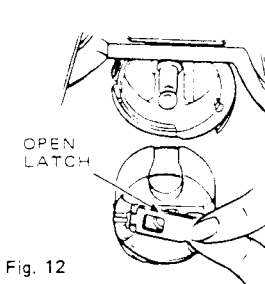

Fig. 12
- Reach beneath the bed of the machine with left hand and remove the bobbin case as shown in Fig. 12.